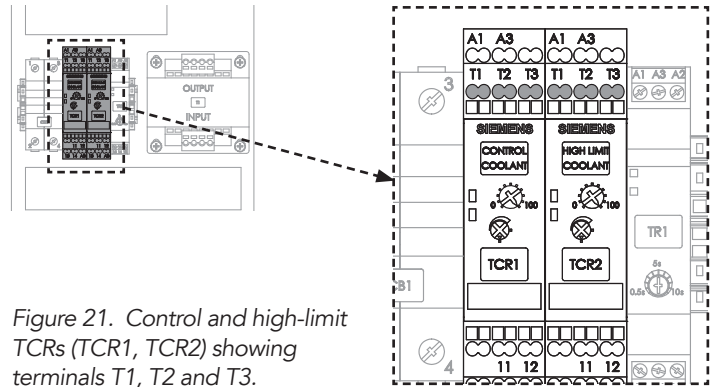

Figure 21. Control and high-limit TCRs (TCR1, TCR2) showing terminals T1, T2 and T3.
3. Using the ohmmeter, measure the resistance between TCR terminals **T1** and **T2**. (See Figure 21.)